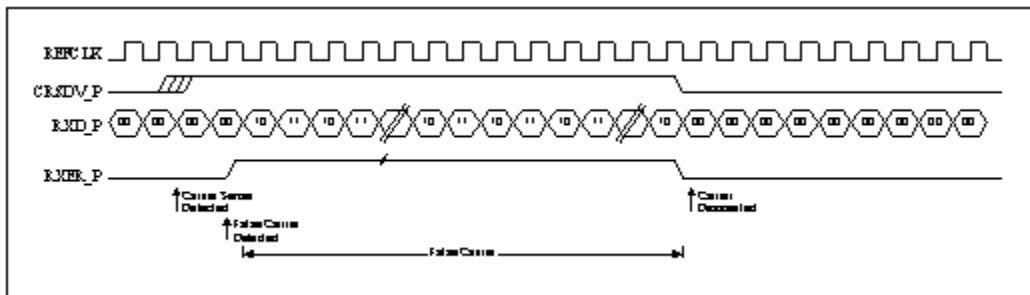

Figure 3-5 RMII Reception with False Carrier (100M Only)
Figure 3-5 shows the relationship among REFCLK, CRSDV and RXD[1:0] during a received false carrier event. CRSDV is asserted asynchronously to REFCLK as in the valid receive case shown in . However, once false carrier is detected, RXD[1:0] is changed to (10) (11) (Value 1110 in MII) and RXER is asserted. Both RXD[1:0] and RXER transition synchronously to REFCLK. After carrier sense is de-asserted, CRSDV is de-asserted synchronously to REFCLK.